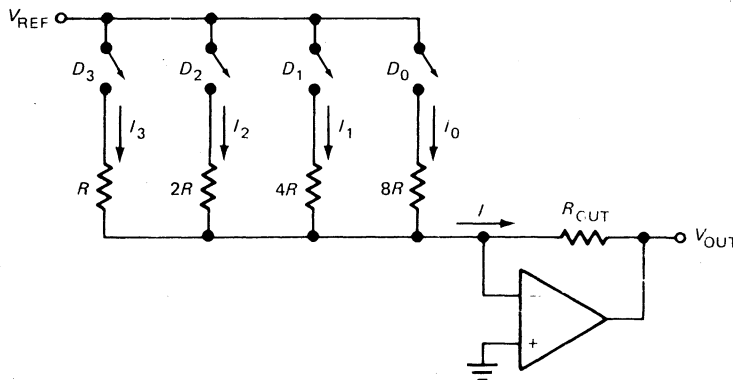

Fig. 16-28
- 16-2. In Fig. 16-28, $V_{REF} = 1$ V, $R = 2$ k Ω , and $R_{OUT} = 1$ k Ω . What does the output current equal when all the switches are closed? The output voltage?